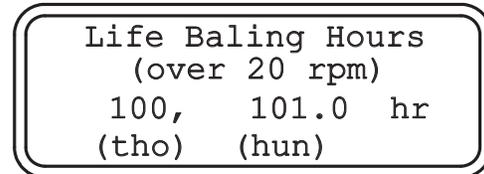

Figure 12 - Life Baling Hours Screen
- Life Baling Hours (see Figure 12)